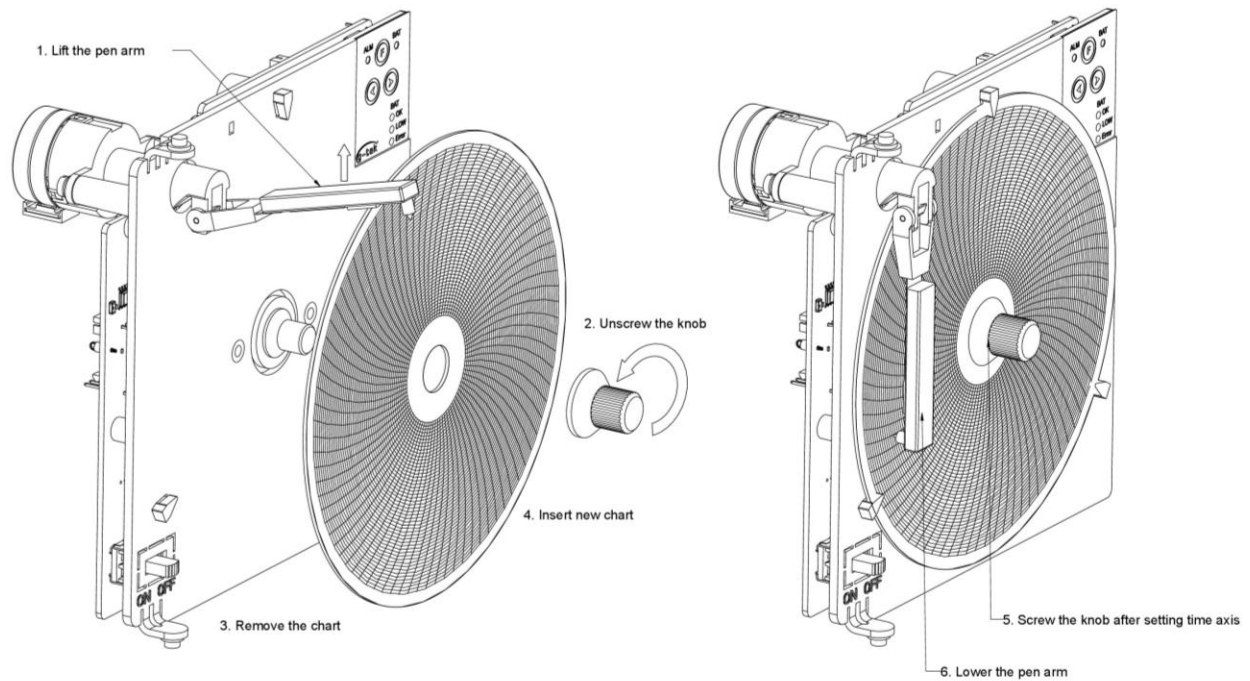

Figure 9 - Chart Fitting
3. Unscrew the chart knob as shown in figure 9.
6. Screw the knob after setting time axis. Make sure that chart slides below the clamp as shown in Figure 9.